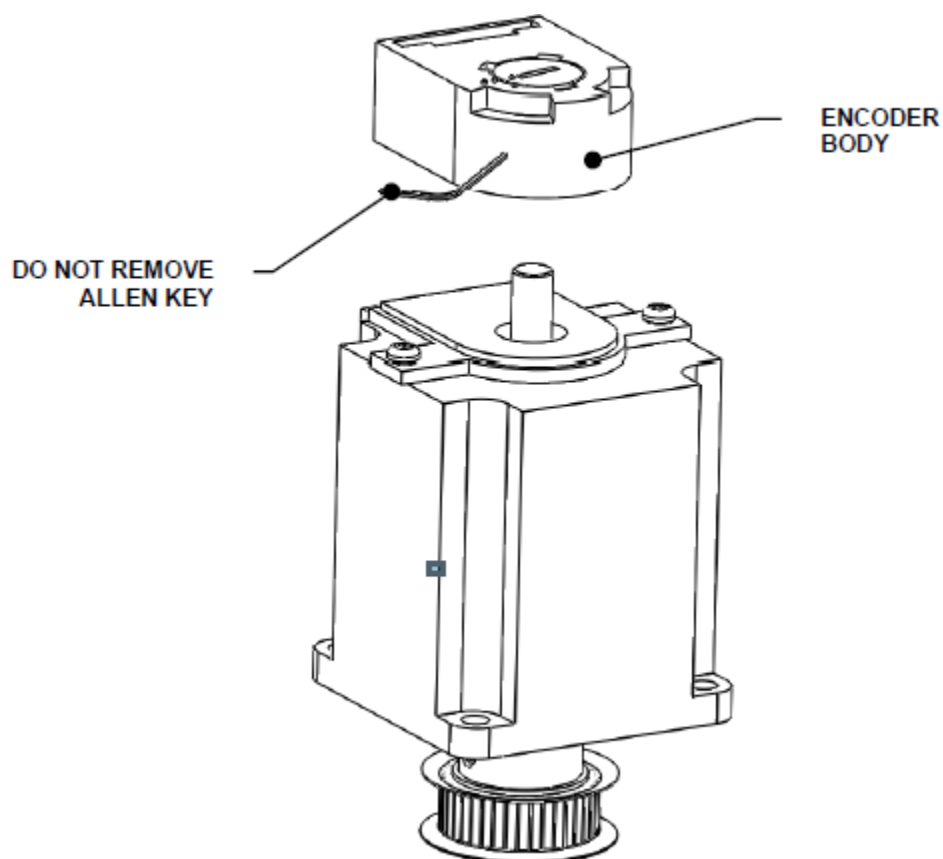

Figure Q-17: Snapping the Encoder in Place
► **Note:** Do not remove the Allen key in the encoder (Figure Q-17).
8. Rotate the encoder cover from the open to the closed position by inserting a small flat blade screwdriver into the notch and rotating clockwise (Figure Q-17).